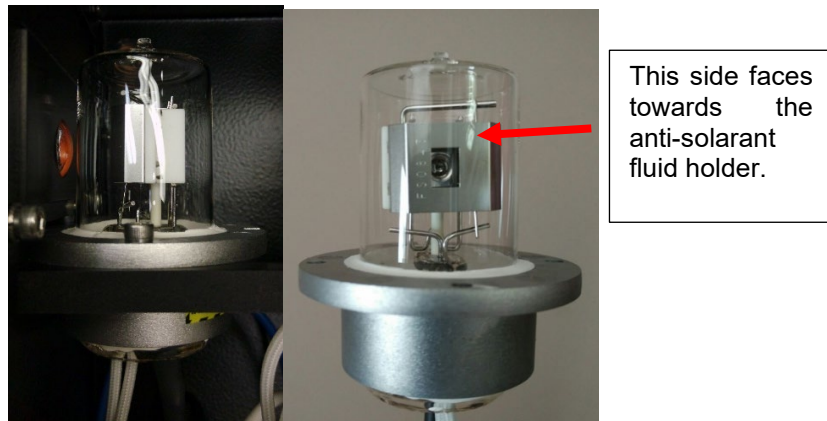

Figure 75: UV Lamp Orientation
10. Place the new lamp in the lamp retainer on the lamp mount assembly. Ensure the lamp is facing the correct direction. Refer to Figure 75 for the correct UV source lamp orientation.